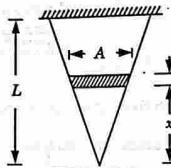

Fig. 1.16.1.
- Consider a small length dx of the bar at a distance x from the free end (Fig. 1.16.1).